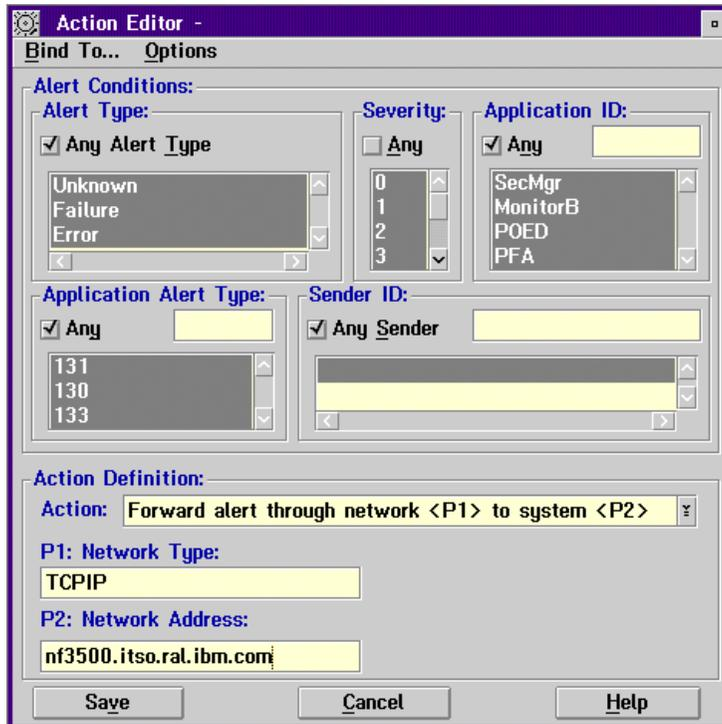

Figure 162. Configuring an Action to Send All Alerts to the Administrator
4. Set up the actions window as in Figure 162.